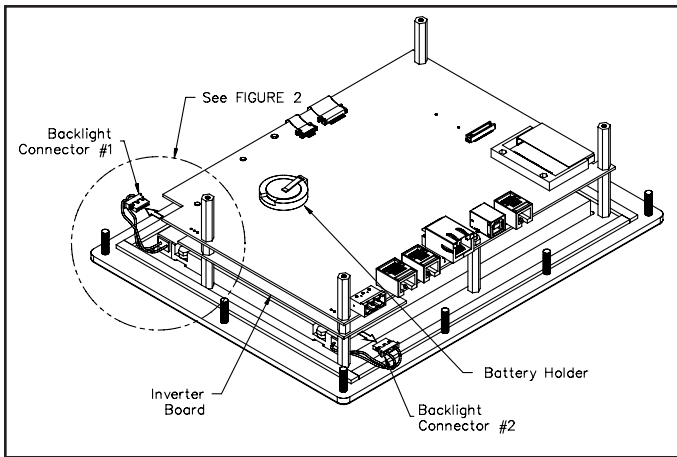

Figure 1
3. Locate the inverter board (refer to Figure 1).
4. Carefully remove the backlight connector from its connector housing on the inverter board. (refer to Figure 1).